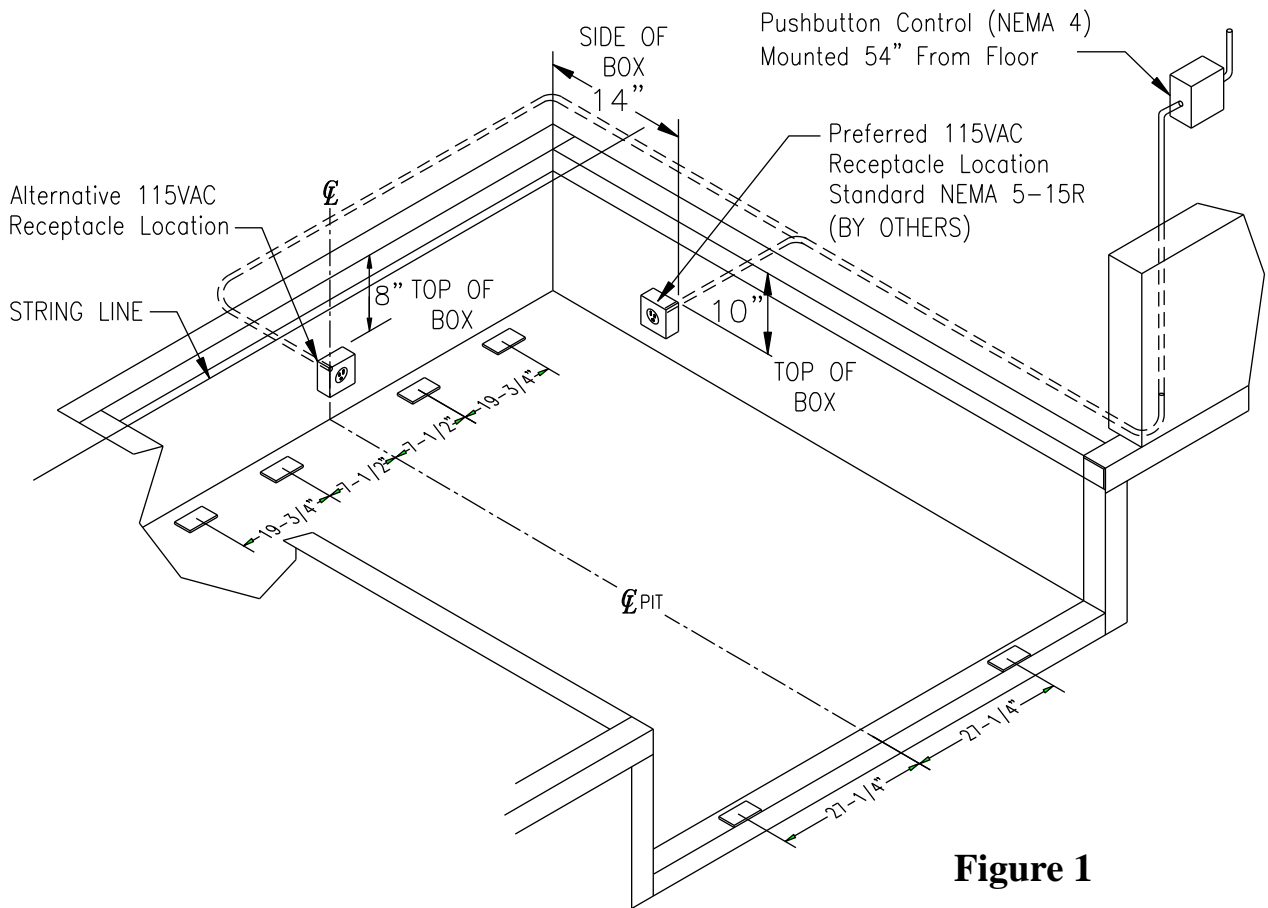

Figure 1
3. **The rear shims must be measured and welded to the bottom of the rear frame before the dock leveler is placed into the pit.** In order to build up the correct height of shims at each support point, lay a taught string line across the side curb steel approximately 5" in from the rear angle. Stack shims until they are 19" (+1/16" -0") or 23" (+1/16" -0") below the string line. Make sure shim heights are all the same depth from the edge of the pit area. See **Figure 1** for correct placement of shims.
11. Shim under the front of the leveler frame at the locations in **Figure 1** so that the top of the deck is flush with the building floor (-1/16" +0"). Weld the shims together and then to the dock frame and front curb angle.